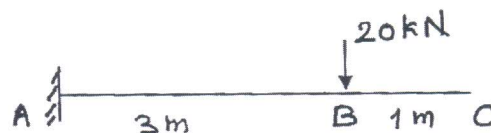

Fig. 2
2. (a) Using Castigliano's first theorem, calculate the deflection at free end C of beam ABC beam shown in Fig. 2 : [7]